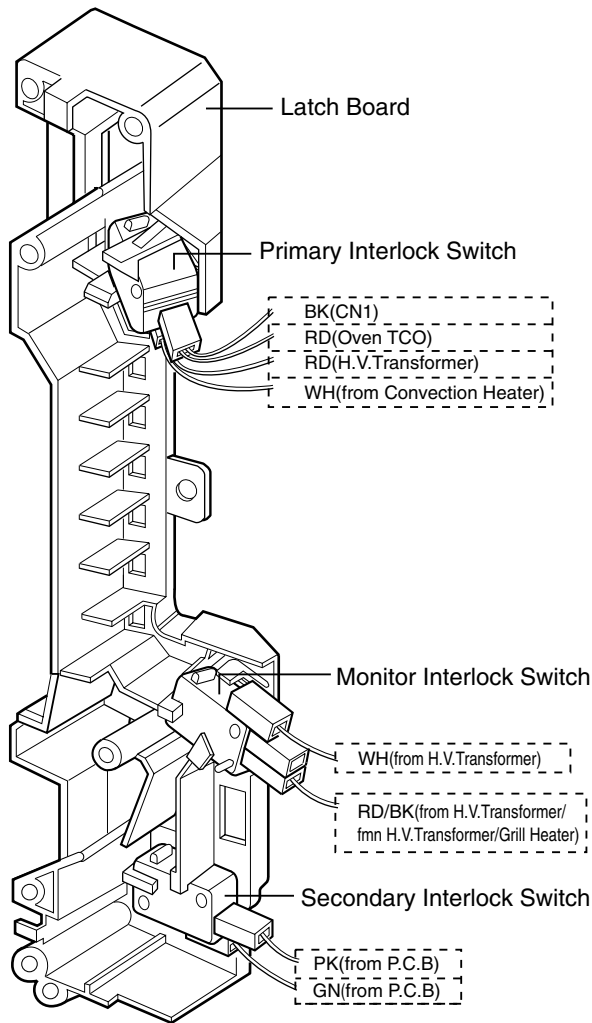

Figure 9
C. REMOVING THE DOOR INTERLOCK SWITCHES (Figures 9, 10)
- (1) Disconnect the wire leads from the interlock switches.
- (2) Remove two screws securing the Latch Board.
- (3) Make necessary replacements and check microwave energy leakage according to "ADJUSTMENT PROCEDURE" on page 7-12.